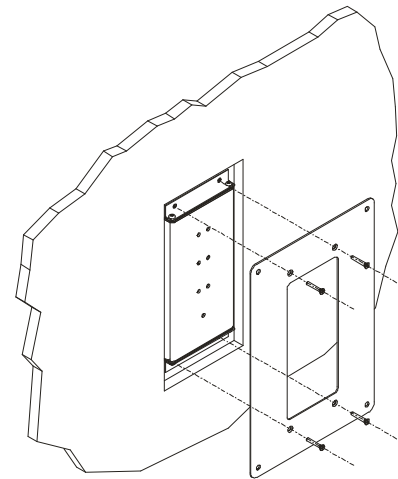

FIGURE 3
7. Attach the Flush Cover Plate to the TDX unit using the 4 Mounting Screws provided (Figure 3).